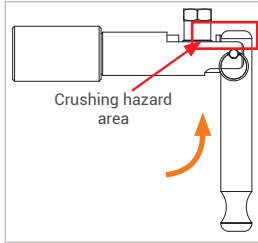

Figure 6
Caution: Keep your fingers away from the piston (Figure 6). You can crush or squeeze your fingers when actuating the clamping lever (Pos. 2).
- ▶ Actuate the clamping lever (Pos. 2) by 90° back to its initial position (Figure 6).